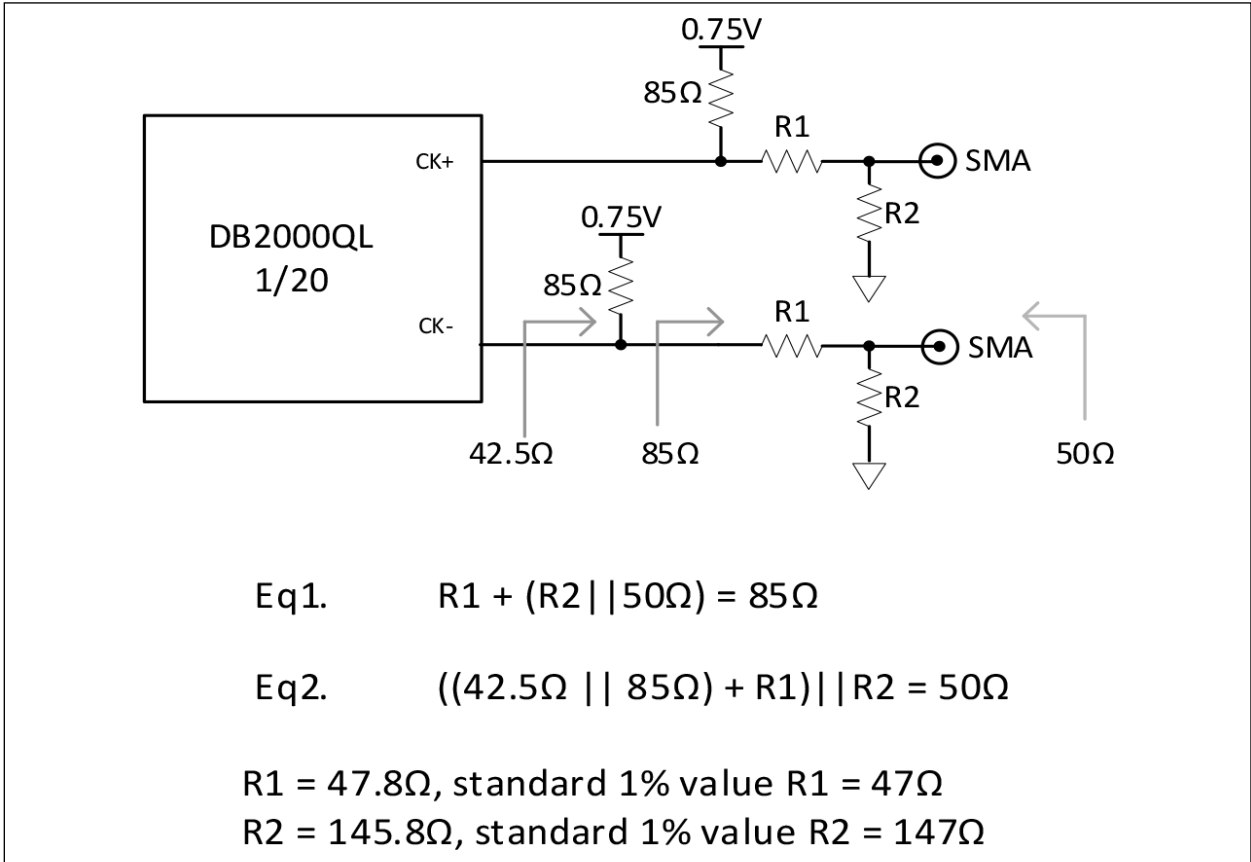

FIGURE 5-1: DC TEST LOAD (AS PER DB2000QL).
- Note 1:** Measured into DC test load, see Figure 5-1.